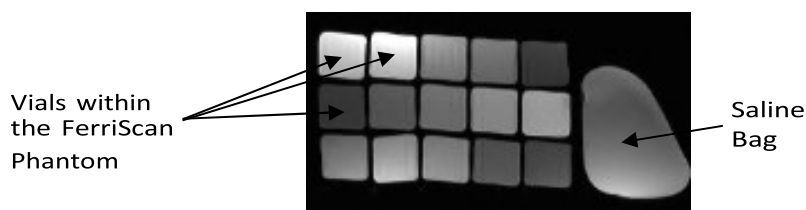

Figure 3: Typical single spin-echo axial image with 15 vials and saline bag visible within the FOV.
8. Run the TE = 6.0 ms (1.5T) or 5.0-6.0 ms (3T) image acquisition (see Figure 3 for an example of a typical image).